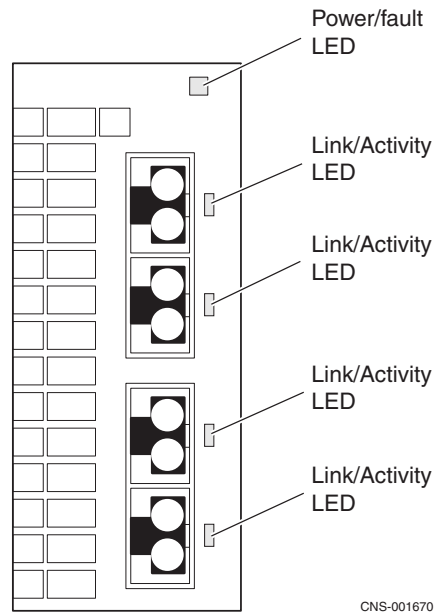

Figure 35 Four-port 16-Gb/s FC I/O module LEDs
The four-port 16-Gb/s Fibre Channel (FC) I/O module has two different types of status LEDs. Figure 35 shows the LEDs and Table 23 describes them.